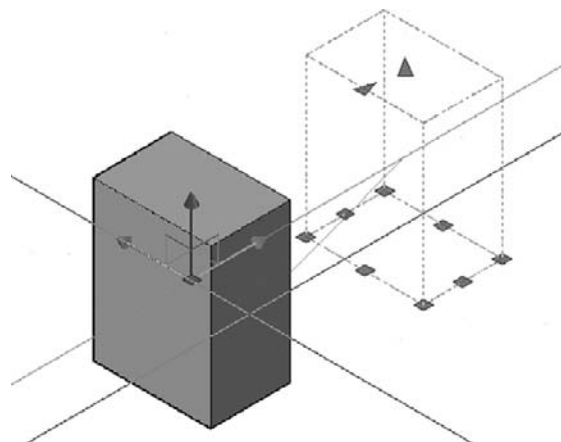

FIGURE 23.20
Step 3. A 3Dmove gizmo appears, but do *not* pick a base point. Instead, use the mouse to carefully select an axis. As soon as you do, the axis turns gold in color. The cube is constrained (even if Ortho is not on), and you can now slide the cube up and down that axis, as seen in Figure 23.20.